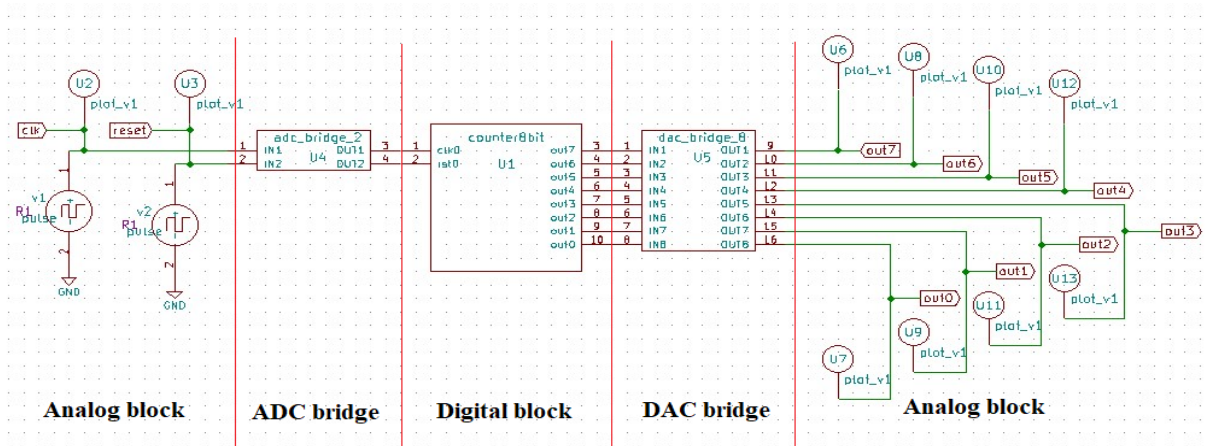

Figure 10.31: Example of a 8 bit Counter circuit in eSim
- Now create the schematic as shown in Fig. 10.31, annotate, perform electrical rules